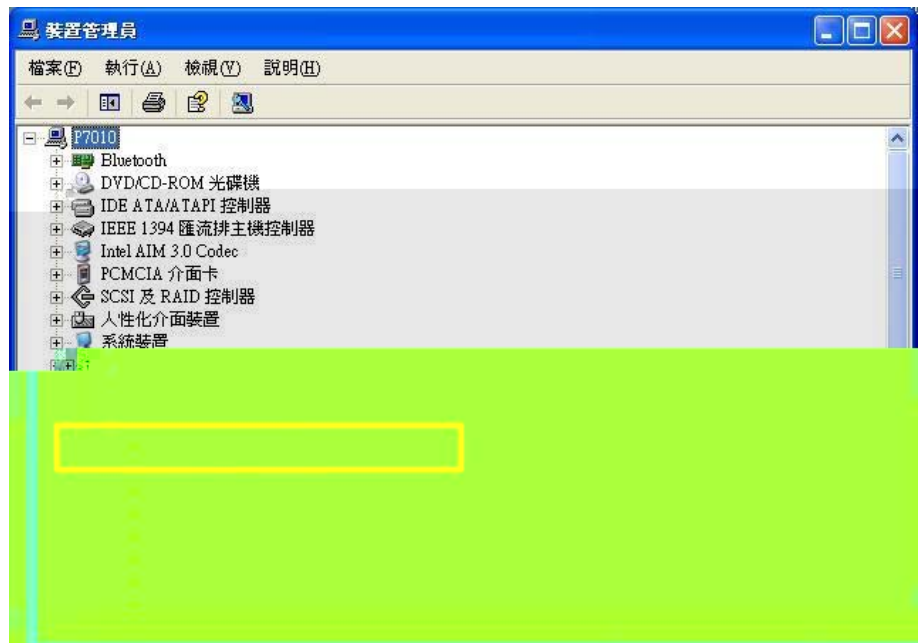

Figure 1.1
- 4) Check the assigned COM port under “COM and LPT” section , see figure 1.1 e.g. COM2